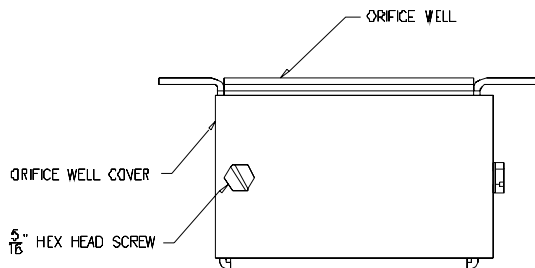

Figure 4.4 – Orifice Well Cover
2. Remove the two (2) 5/16" hex head screws from the front and right sides of the orifice well cover (see Figure 4.4).